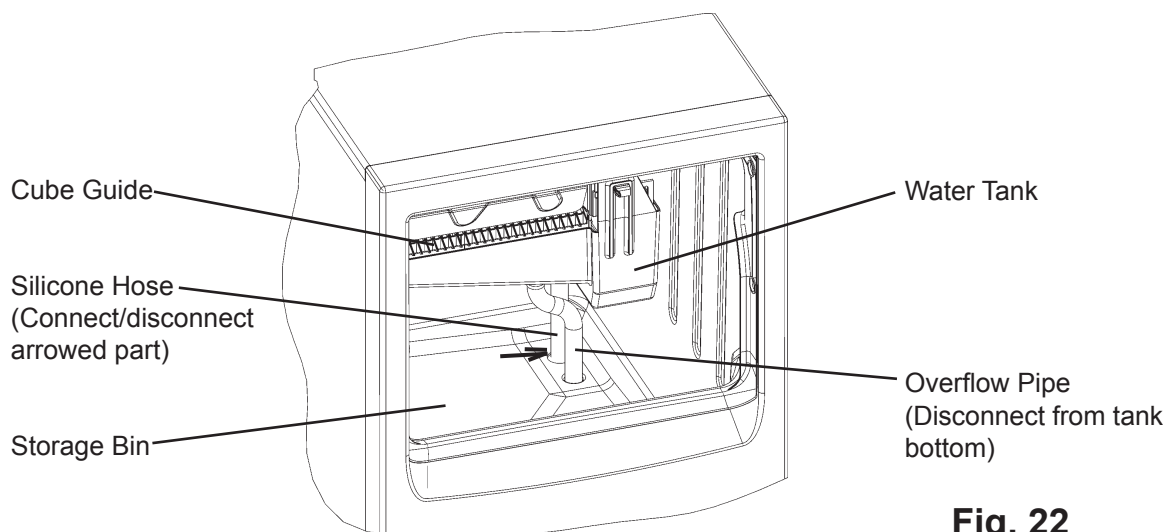

Fig. 22
- 4) Disconnect the Silicone Hose to drain the water. See Fig. 22. Reconnect the Silicone Hose back in its correct position after all of the water has drained.